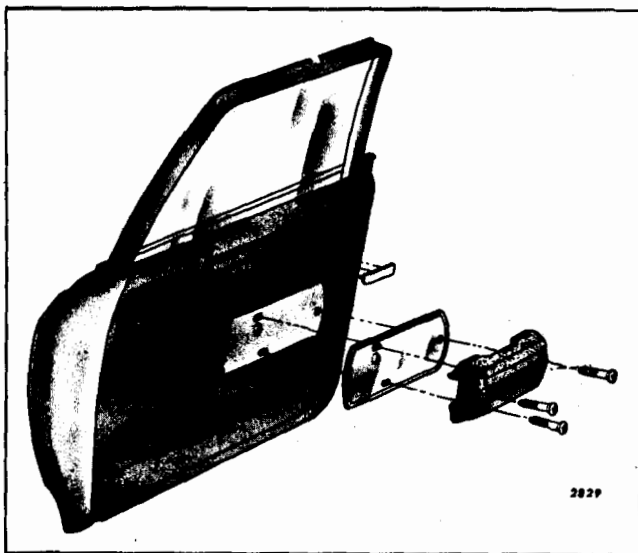
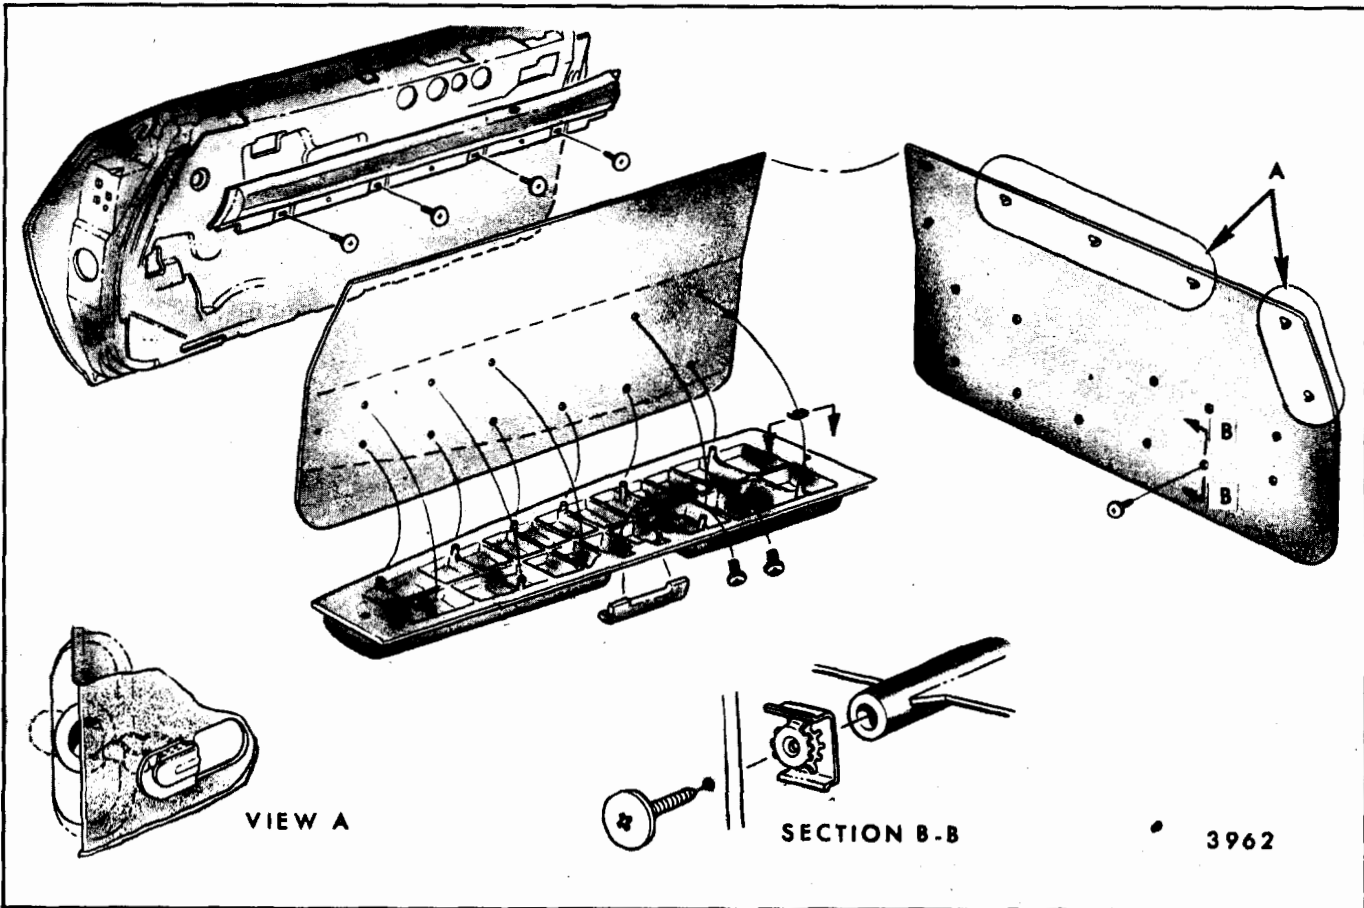
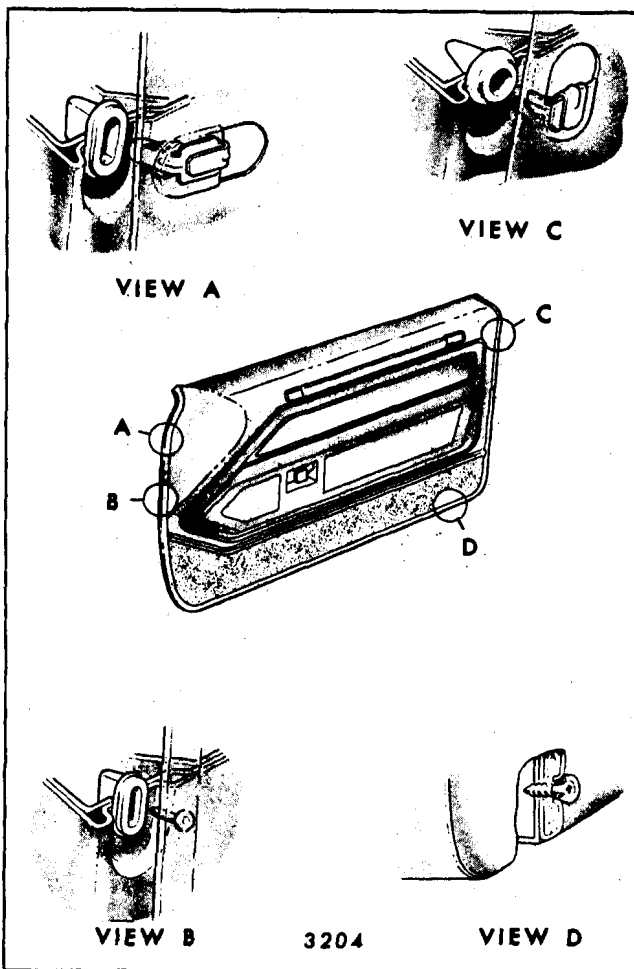

Fig. 13-3-Typical Door Arm Rest Applied After Trim Installation
Fig. 13-4-Typical Door Arm Rest Assembled to Door Trim Assembly Prior to Trim Installation
Fig. 13-12-Typical Types of Door Trim Retention
There are three basic types of door arm rests: those applied after door trim installation, those assembled to the door trim prior to trim installation and arm rests which are an integral part of the door trim assembly. For removal of the first or second type arm rests, refer to Figures 13-3 and 13-4.
and by screws across the bottom (Fig. 13-12 is a composite illustration of the various types of door trim panel fasteners). 12487 styles with standard trim utilize a belt finishing molding across the top of the trim assembly (Figure 13-4). For removal of this molding refer to "Door Belt Finishing Molding (12487 Style with Standard Trim)".
7. On styles with arm rest applied to door trim assembly prior to trim installation (Figure 13-4) or styles with integral arm rest, remove screws inserted through pull cup into arm rest hanger support. On styles with arm rest applied after door trim installation (Figure 13-3), remove arm rest to door inner panel attaching screws.
or clips from plastic cups inserted in door inner panel (Fig. 13-12).
into door inner panel along lower edge of molding (Figure 13-4).